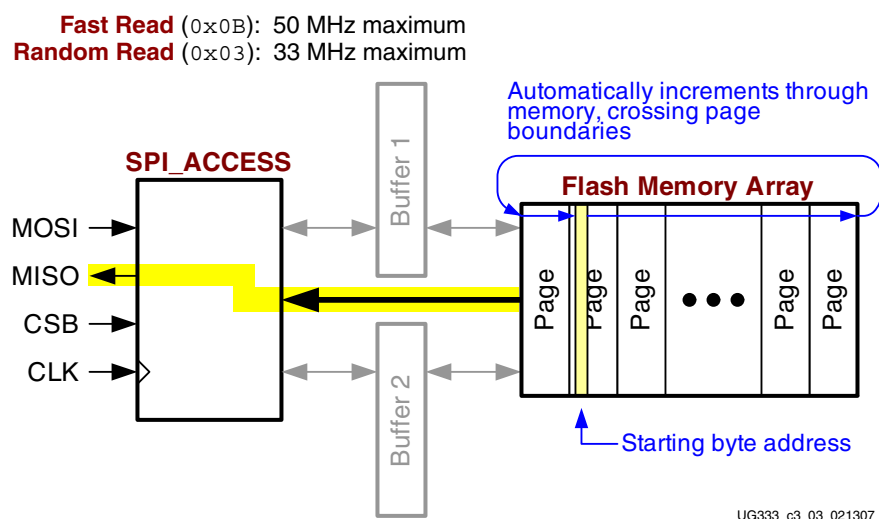

Figure 3-1: Fast Read and Random Read Commands
The Fast Read command sequentially reads a continuous stream of data directly from Flash memory bypassing the SRAM page buffers, as shown in Figure 3-1. The command specifies an initial starting byte address in the ISF memory. The ISF memory incorporates an internal address pointer that automatically increments on every clock cycle, allowing one continuous read operation without requiring additional address sequences.
- ♦ The starting byte location can be anywhere in the ISF memory array, located on any page, as shown in Figure 3-1.
- ♦ While CSB is Low, new data appears on the MISO output on every subsequent falling CLK edge. The ISF memory automatically increments the implied address counter through contiguous memory locations, as highlighted in Figure 3-1, regardless of the address mode.
Upon reaching the end of a memory page, the ISF memory continues reading at the beginning of the next page, as shown in Figure 3-1. There is no added delay when crossing a page boundary. After reading the last bit in the memory array, the ISF continues reading but returns to the beginning of the first page of memory. Again, there is no added delay when wrapping around from the end of the array to the beginning of the array. A Low-to-High transition on CSB terminates the read operation and the MISO output pin returns High. See “In-System Flash Change,” page 14 for special wrapping considerations for the XC3S50AN.
The Random Read command sequentially reads a continuous stream of data directly from Flash memory bypassing the SRAM page buffers, as shown in Figure 3-1. The command specifies an initial starting byte address in the ISF memory. The ISF memory incorporates
- The starting byte location can be anywhere in the ISF memory array, located on any page, as shown in Figure 3-1.
- While CSB is Low, new data appears on the MISO output on every subsequent falling CLK edge. The ISF memory automatically increments the implied address counter through contiguous memory locations, as highlighted in Figure 3-1, regardless of the address mode.
Upon reaching the end of a memory page, the ISF memory continues reading at the beginning of the next page, as shown in Figure 3-1. There is no added delay when crossing a page boundary. After reading the last bit in the memory array, the ISF continues reading but returns to the beginning of the first page of memory. Again, there is no added delay when wrapping around from the end of the array to the beginning of the array. A Low-to-High transition on CSB terminates the read operation and the MISO output pin returns High.